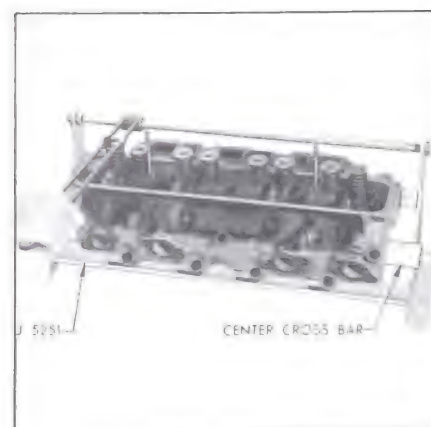

Figure 2-19A—Removing Valve in Holding Fixture J 5251
1. Place cylinder head on Holding Fixture J-5251 with valve springs straight up. Compress valve springs with fixture lever and remove the spring cap keys, then remove the springs and caps. See Figure 2-19A.